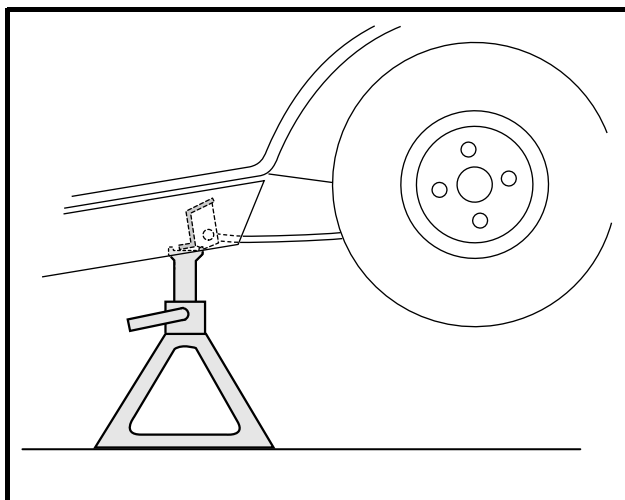

Figure 16-8 Support Vehicle on Jackstands
2. Place a floor jack under the transaxle and raise the rear of the vehicle. Position jackstands under the frame cross-member between the spring mount and the side stringer, just forward of each rear wheel. Lower the vehicle to let the jackstands support the vehicle (**Figure 16-8, Page 16-8**).